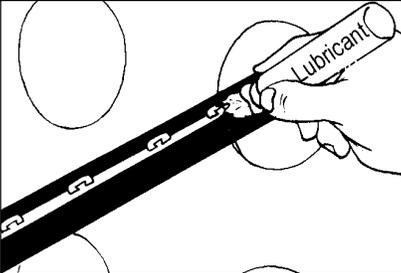

Figure 4
2. For ease of installation, lubricate at least 6" of cable sheath with supplied lubricant or company approved lubricant. *(Figure 4)*